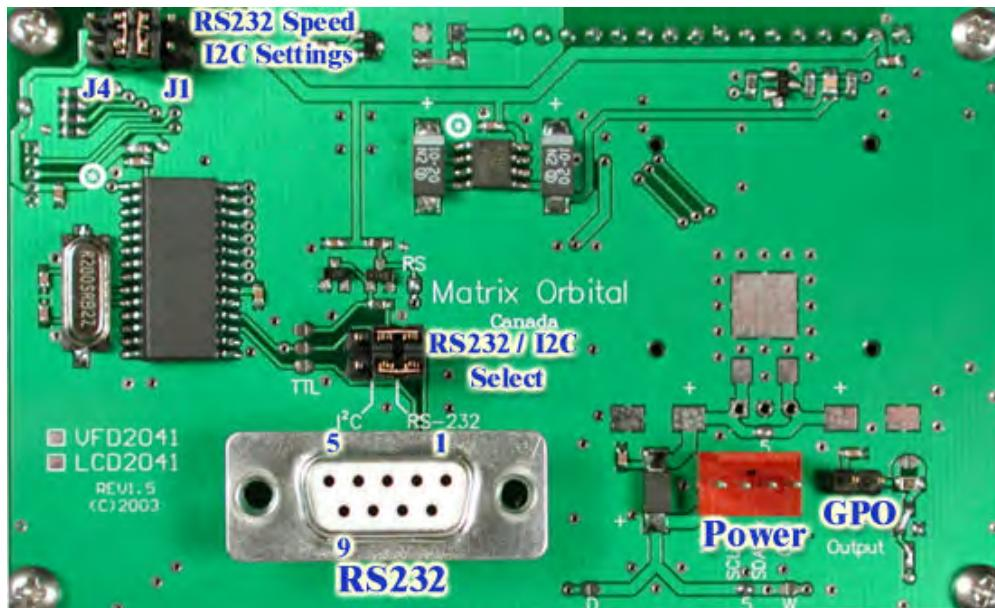

Figure 2-1 Electrical Connections
1. Refer to the diagram above and Figure 2-1 for the following steps.
Power is applied via pins 1 and 4 as shown in Figure 2-1. Power requirement for standard units is +5 VDC  $\pm 0.25$ V (units with the wide voltage range option require 7 – 15 Vdc or 7 – 35 Vdc). Power may also be supplied via the RS-232 connector as described in section 2.2.2.